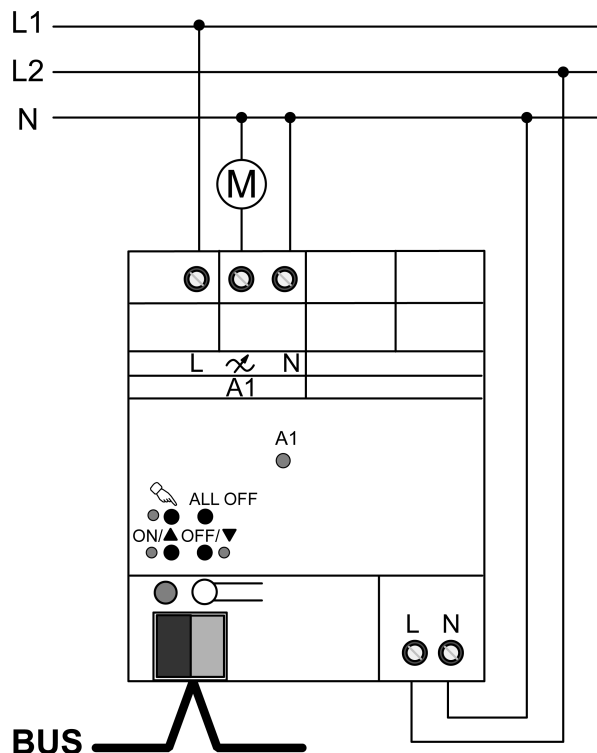

Figure 6: Dimming actuator 1-gang – connection for speed controller operation
- Connect device as shown in the connection example (Figure 6).